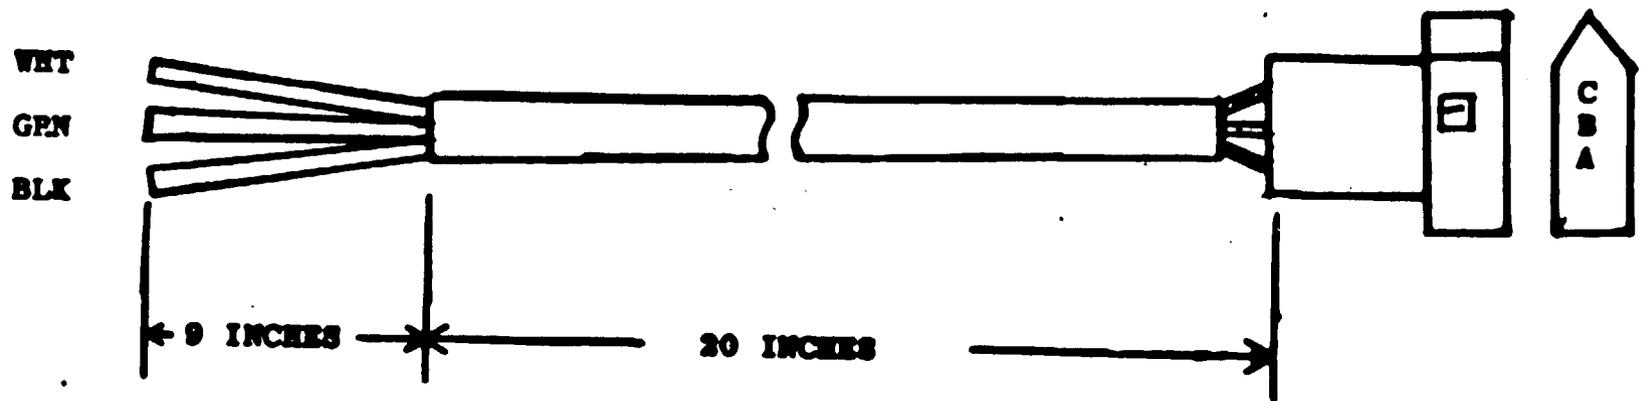

FIG. 3
- a) Refer to figure 3 for Molex connector layout.